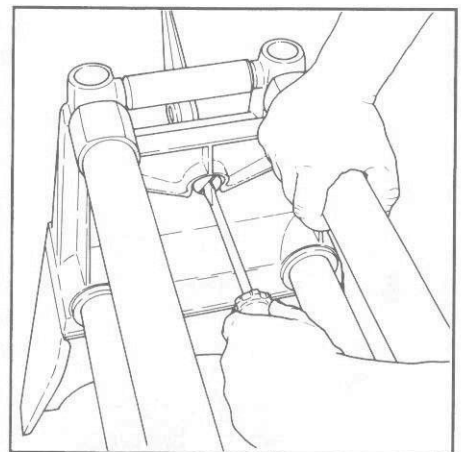

Figure 3. Adjusting the headrest lock.
2. Adjust the headrest lock. To check the headrest lock, grasp the way tubes near the way tube tie bar and pull up. If there is 'give' in the lock, unlock the handle and turn the shaft **clockwise** with a screwdriver. (See Figure 3.) If the lock is difficult to operate, the shaft is too tight. To loosen, unlock the handle and turn the shaft **counterclockwise**.